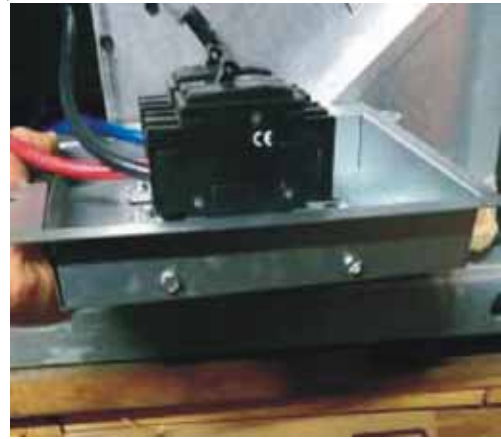

Figure 16
Mount the breaker (or terminal block) to the rear mounting plate using the four (4) blunt tip screws included in the unit literature bag. The screw heads should all be located on the outside of the mounting plate as shown in Figure 16.